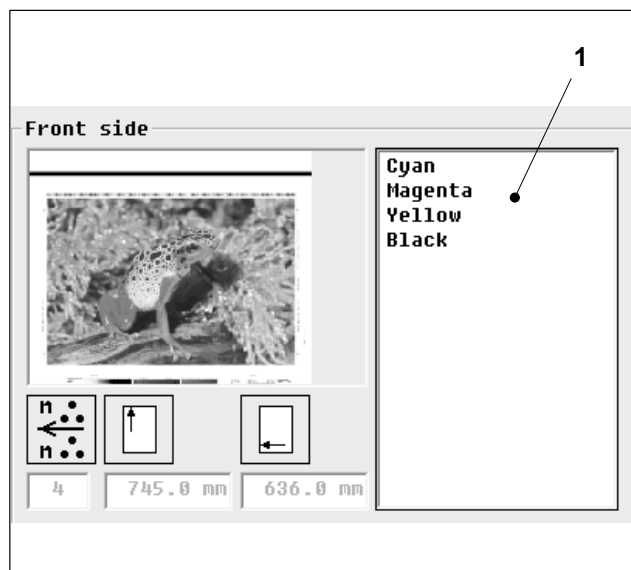

Fig. 16 The *Straight printing* section
3. Click on a color separation (Fig. 16/1).